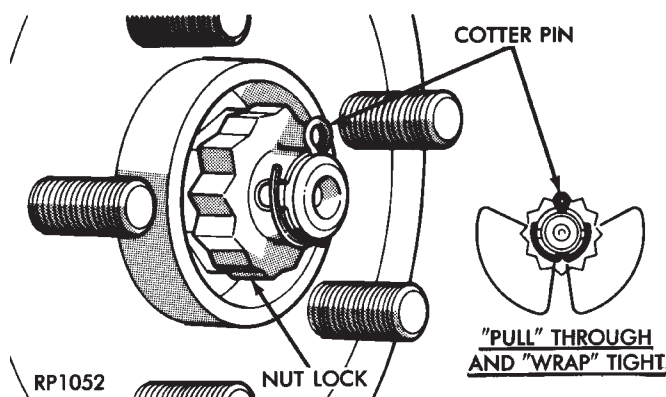

Fig. 55 Installing Spring Washer, Nut Lock And Cotter Pin
(12) With vehicle brakes applied to keep braking disc from turning, tighten hub nut to 203 N·m (150 ft. lbs.) of torque.
(13) Install the spring washer, hub nut lock, and new cotter pin. Wrap cotter pin prongs tightly around the hub nut lock (Fig. 55).